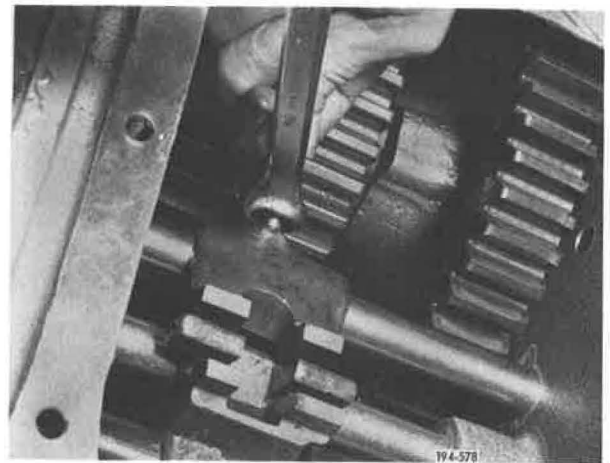

Figure 5-680. Removing Setscrew
15. Remove set-screw from fourth/fifth speed shift fork. See **Figure 5-680**.